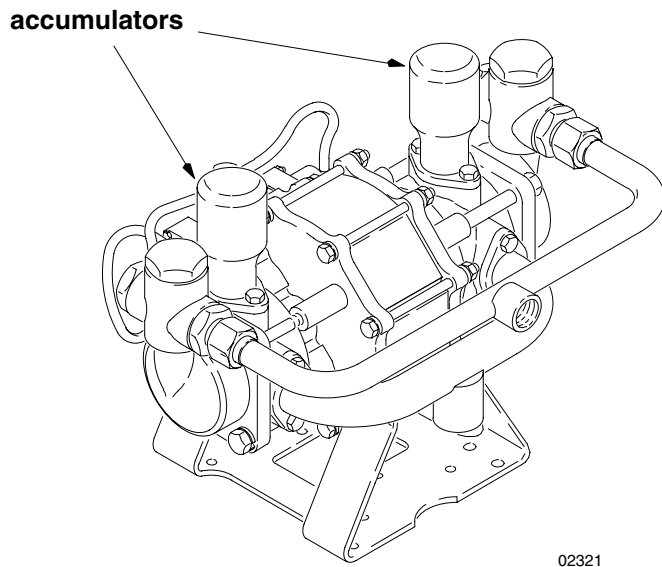

Fig. 1
- **400 and 1200 Series Pumps:** Mount the pump with the accumulators in the top position as shown in Fig. 1. The accumulators must be in the position shown or the pump will not prime.